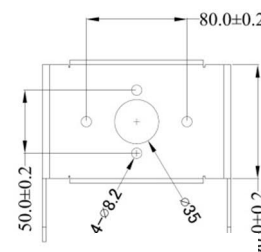

Figure 2
- ☞ Secure the wall mounting bracket to the structure by using four fasteners (not provided). (Figure 2)